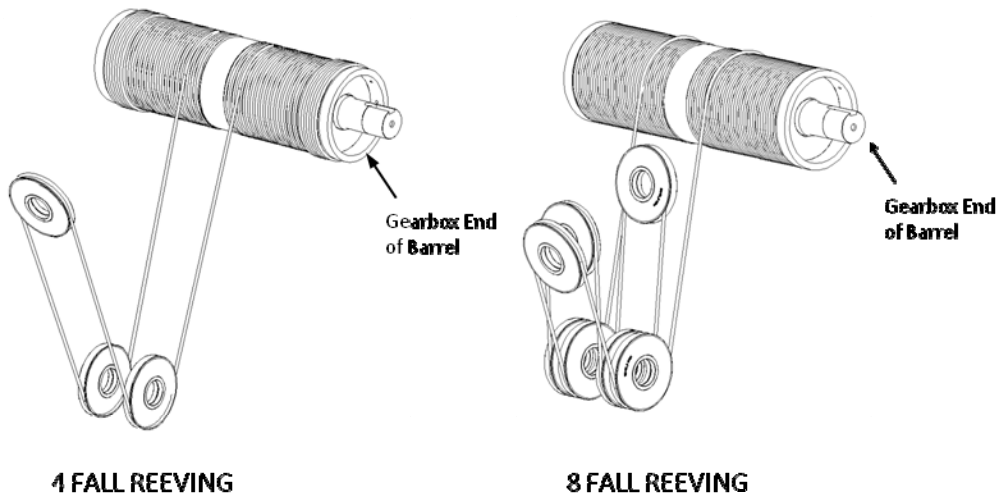

Figure 37 – Reeving Diagrams for ZX6 & ZX8 4&8 Fall Low Head & Crab Hoists
- Feed the tail ends through the bottom block and up to the drum. (See Figure 37 to Figure 39).